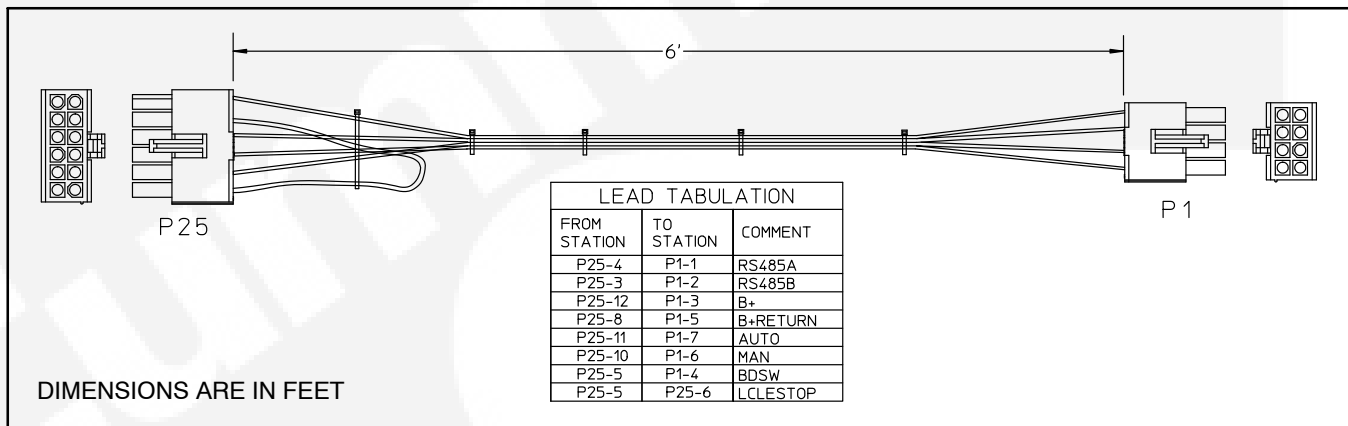

FIGURE 3-17. OPERATOR PANEL HARNESS
- b. Install the operator panel harness (see Figure 3-17). Plug the P1 connector into the display (either J1 or J2) and plug the P25 connector into the J25 connector on the control board.